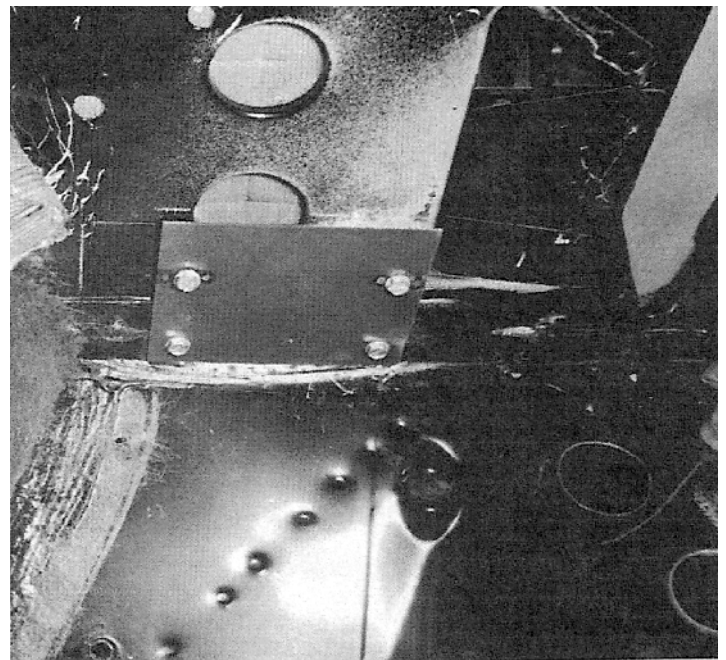

FIG 4
9. Slit the heat duct on the underside of the dash on passenger's side and flatten against bottom of dash as shown in FIG. 4
10. Remove (2) black sheet metal screws holding heater control panel to dashboard. Discard screws. Remove and discard (2) sheet metal screws which secure the (2) upper controls to the dashboard. Remove and discard the (4) plastic screw plugs.
11. Remove and discard (2) machine screws which hold the heater control to the transmission tunnel.